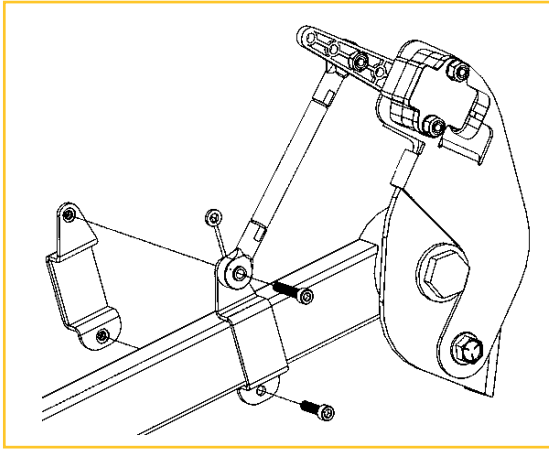

FIGURE 68 - RIGHT REAR
2. Install the rear lower control arm brackets. The bracket edge will be 4.5 inches from the bushing center. (FIGURES 68, 69, 70, 71, 72)